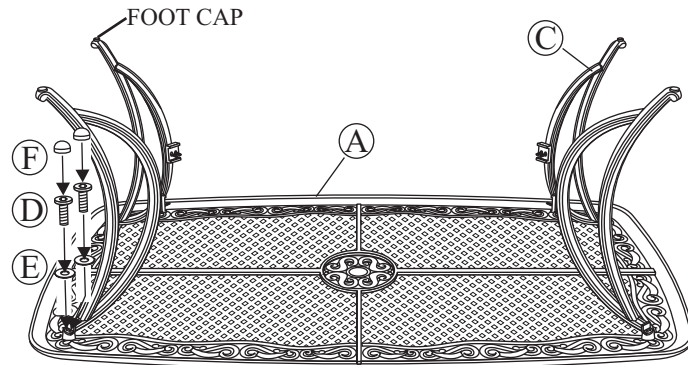

Fig.1
- 1 Place the table top upside down on a flat, non-abrasive surface. Attach a table leg to the table top by using the bolts and washers as shown in Fig.1. Guide bolts through holes in the table legs and into the pre-drilled holes in the table top. **Hand tighten 2-3 turns only.** Repeat for the other three legs.